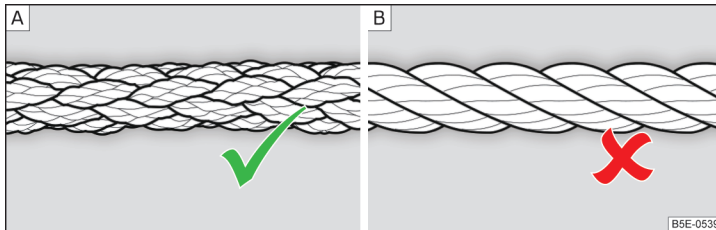

Fig. 179 Braided tow rope / Spiral tow rope
To tow with a tow rope, only use a braided synthetic fibre rope » Fig. 179 - **A** » **i**.
- Spiral tow ropes must not be used for towing » Fig. 179- **B**, the towing eye may unscrew out of the vehicle - There is a risk of an accident.